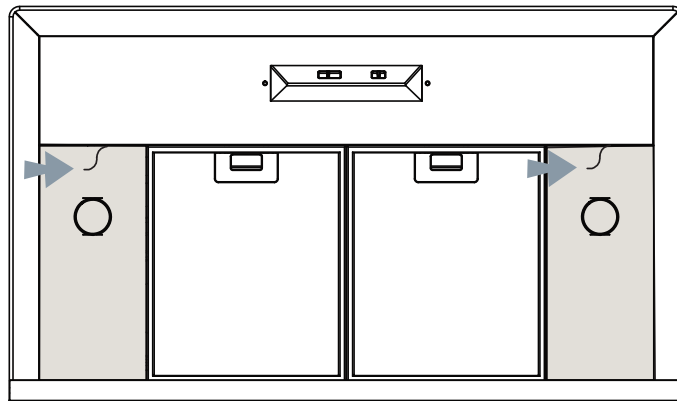

Fig 4
3. Begin installation by removing the mesh filters and light panels (Fig 4).
7. Fasten hood onto cabinet with (4) M4 wood screws provided.